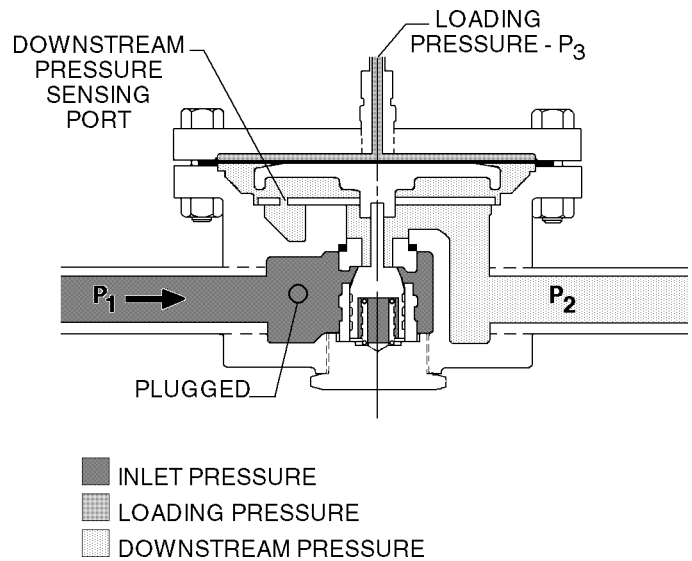

Figure 2: POSR-1-20
- Option-20:** PRESSURE LOADED REDUCER. Main valve body only; i.e. no pilot valve. Allows for remote control or programmed control in batching operations. May even be loaded with air from an I/P transducer. See Table 6 for flow capacity. **NOTE:** There is an inlet (P_1) pressure influence on the outlet pressure if the P_1 pressure varies. See Figure 2.